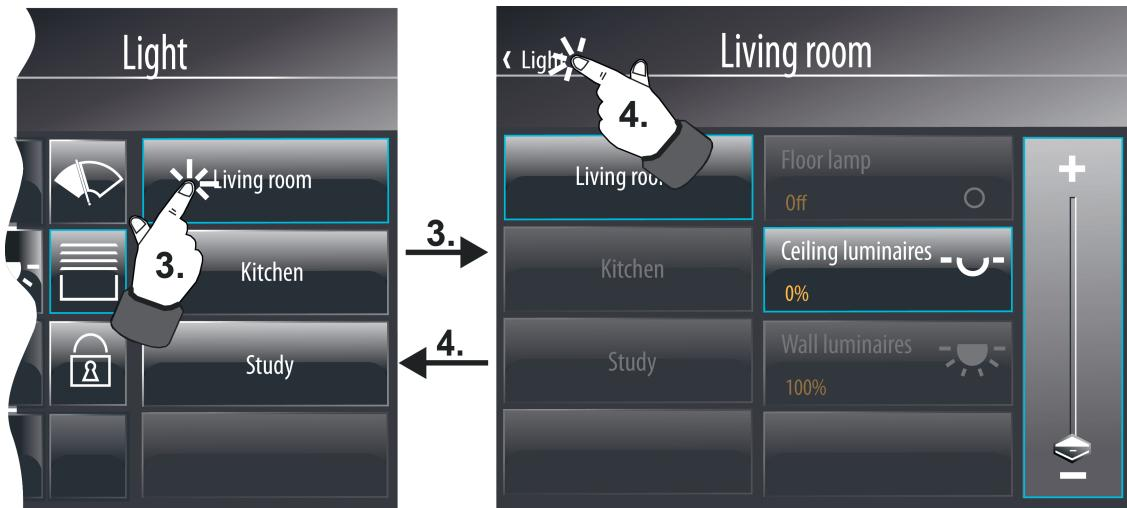

Figure 16: Example of functions in the function view (right)
If you touch the sensor surface of a room with your finger (3), the device branches to the second submenu of the function control. There, the display shows all KNX functions of the selected room allocated to the selected function unit (figure 16).